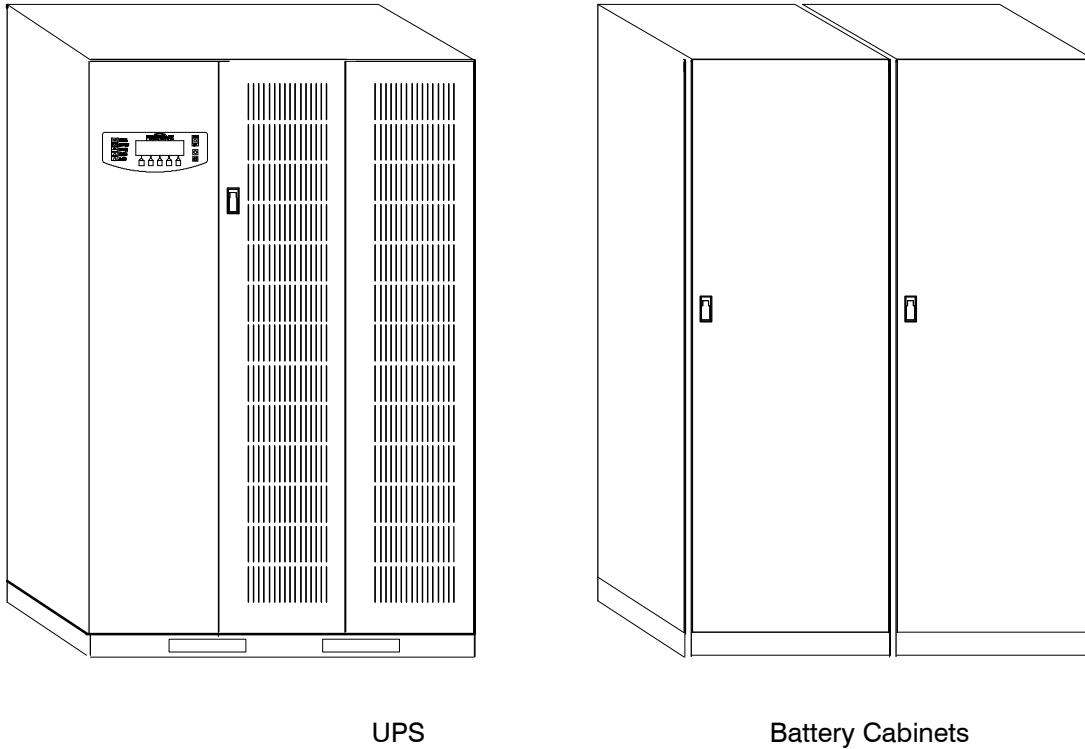

Figure 3. UPS with Separate Battery Cabinets (Attached to Each Other)
- The UPS and one or more battery cabinets separately installed (see Figure 3).